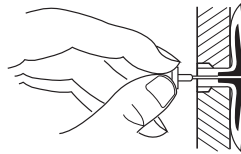

Figure 11 - Popping Open Anchor Wings For Thin Walls
4. For thin walls (1/2" or less), insert red key into wall anchor. Push red key to "pop" open anchor wings (see Figure 11).